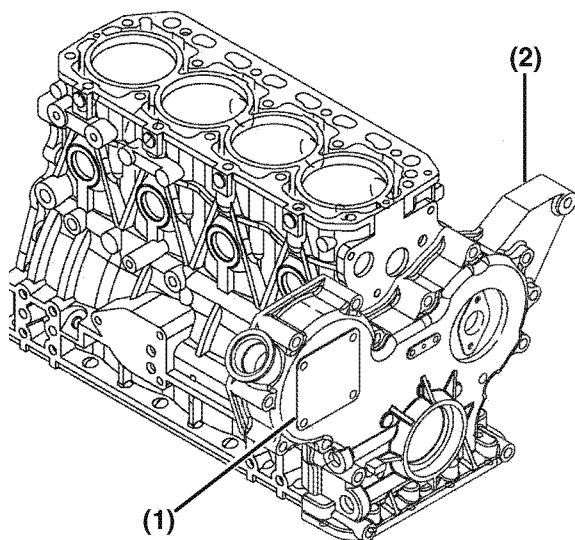

Figure 7-13
15. Remove the fuel injection pump drive gear cover (Figure 7-13, (1)) from the gear case cover (Figure 7-13, (2)).